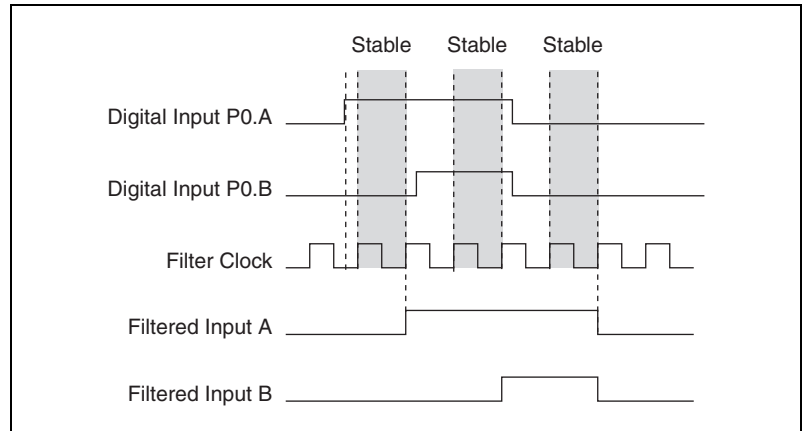

Figure 6-13. Case 1
- **Case 1**—If no transitions have occurred on the other lines, the transition propagates on the second filtered clock edge, as shown in Figure 6-13.